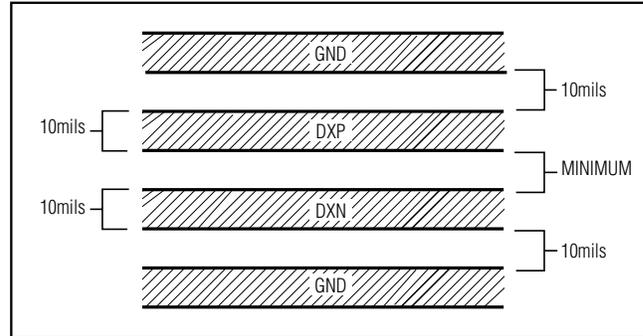

Figure 2. Recommended DXP-DXN PC Traces
- 3) Route the DXP and DXN traces in parallel and in close proximity to each other, away from any higher voltage traces, such as 12VDC. Leakage currents from PC board contamination must be dealt with carefully since a 20MΩ leakage path from DXP to ground causes about 1°C error. If high-voltage traces are unavoidable, connect guard traces to GND on either side of the DXP-DXN traces (Figure 2).
- 6) Use wide traces. Narrow traces are more inductive and tend to pick up radiated noise. The 10mil widths and spacings that are recommended in Figure 2 are not absolutely necessary, as they offer only a minor improvement in leakage and noise over narrow traces. Use wider traces when practical.